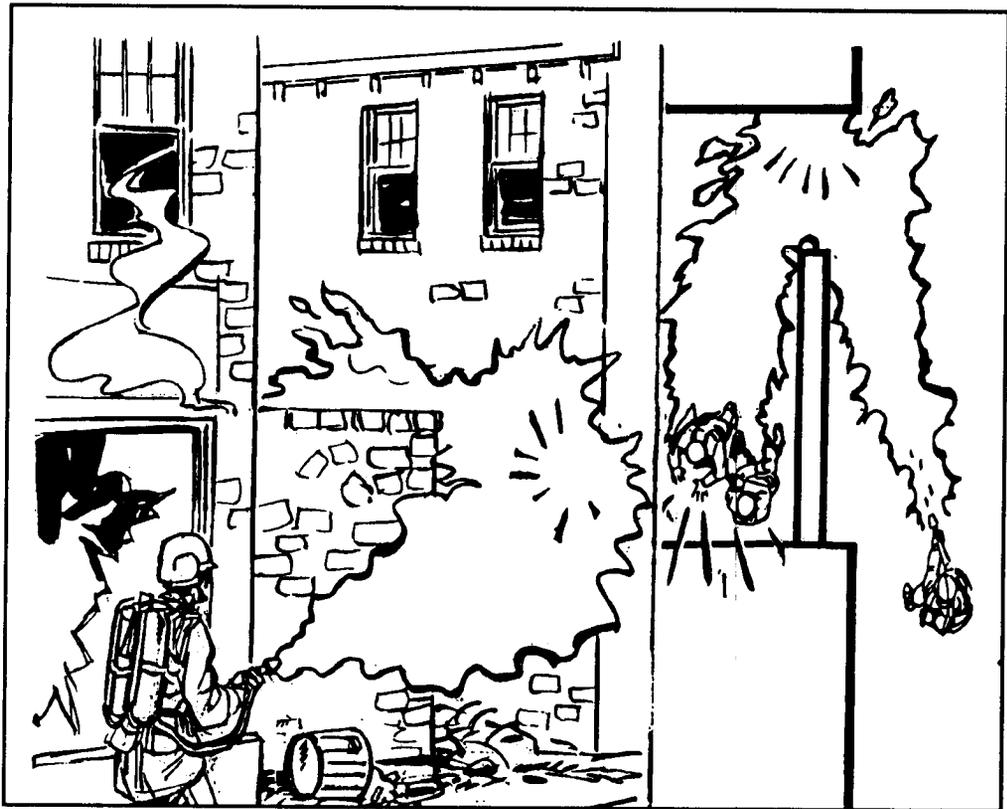

Figure 8-14. Blind-angle burst.
(3) **M2A1-7 Portable flamethrower.** Portable flamethrowers have a much shorter effective range than the M202 (20 to 50 meters) but require no special backblast consideration. The psychological and physical effects of the portable flamethrower are impressive. When used against troops behind a street barricade, the flamethrower can be fired in a traversing burst to cover a wide frontage. A blind-angle burst can be fired to exploit the splattering effect of the thickened fuel without exposing the gunner (see Figure 8-14, page 8-26).